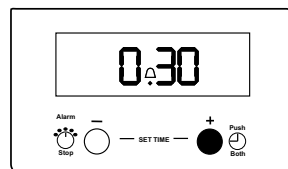

Fig. 6.
Release button (1) and press and hold button (2). The display will count up in one minute intervals until the interval to be timed is reached e.g. 30 minutes, see Fig. 6. If necessary press and hold button (1) to achieve the correct time interval.